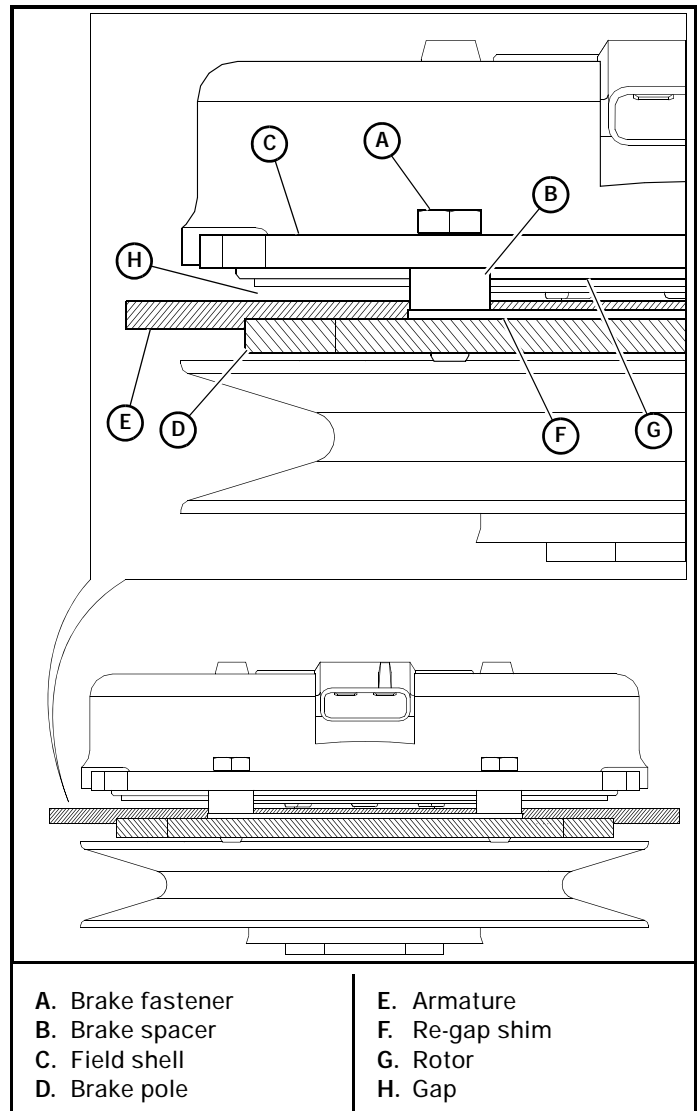

Figure 4-26
**WARNING** Do not remove brake pole from field shell/armature. The brake pole tracks match with the clutch brake and need to continue to match after shim is removed to ensure proper brake torque. Figure 4-26